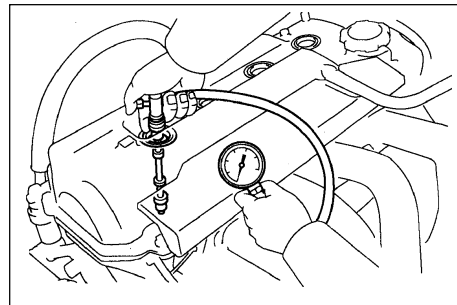

Figure 1-4
12. Check the compressing pressure (see Figure 1-4).